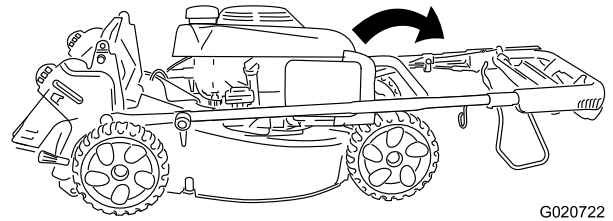

Figure 20
2. Rotate the entire handle forward (Figure 20).